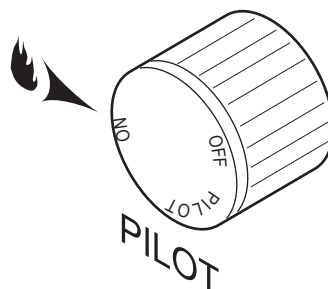

Figure 51 - On Position
Depress and turn the knob counterclockwise ↶ to the “ON” position. *Figure 51*. It will take less than four (4) seconds for the burner to ignite.